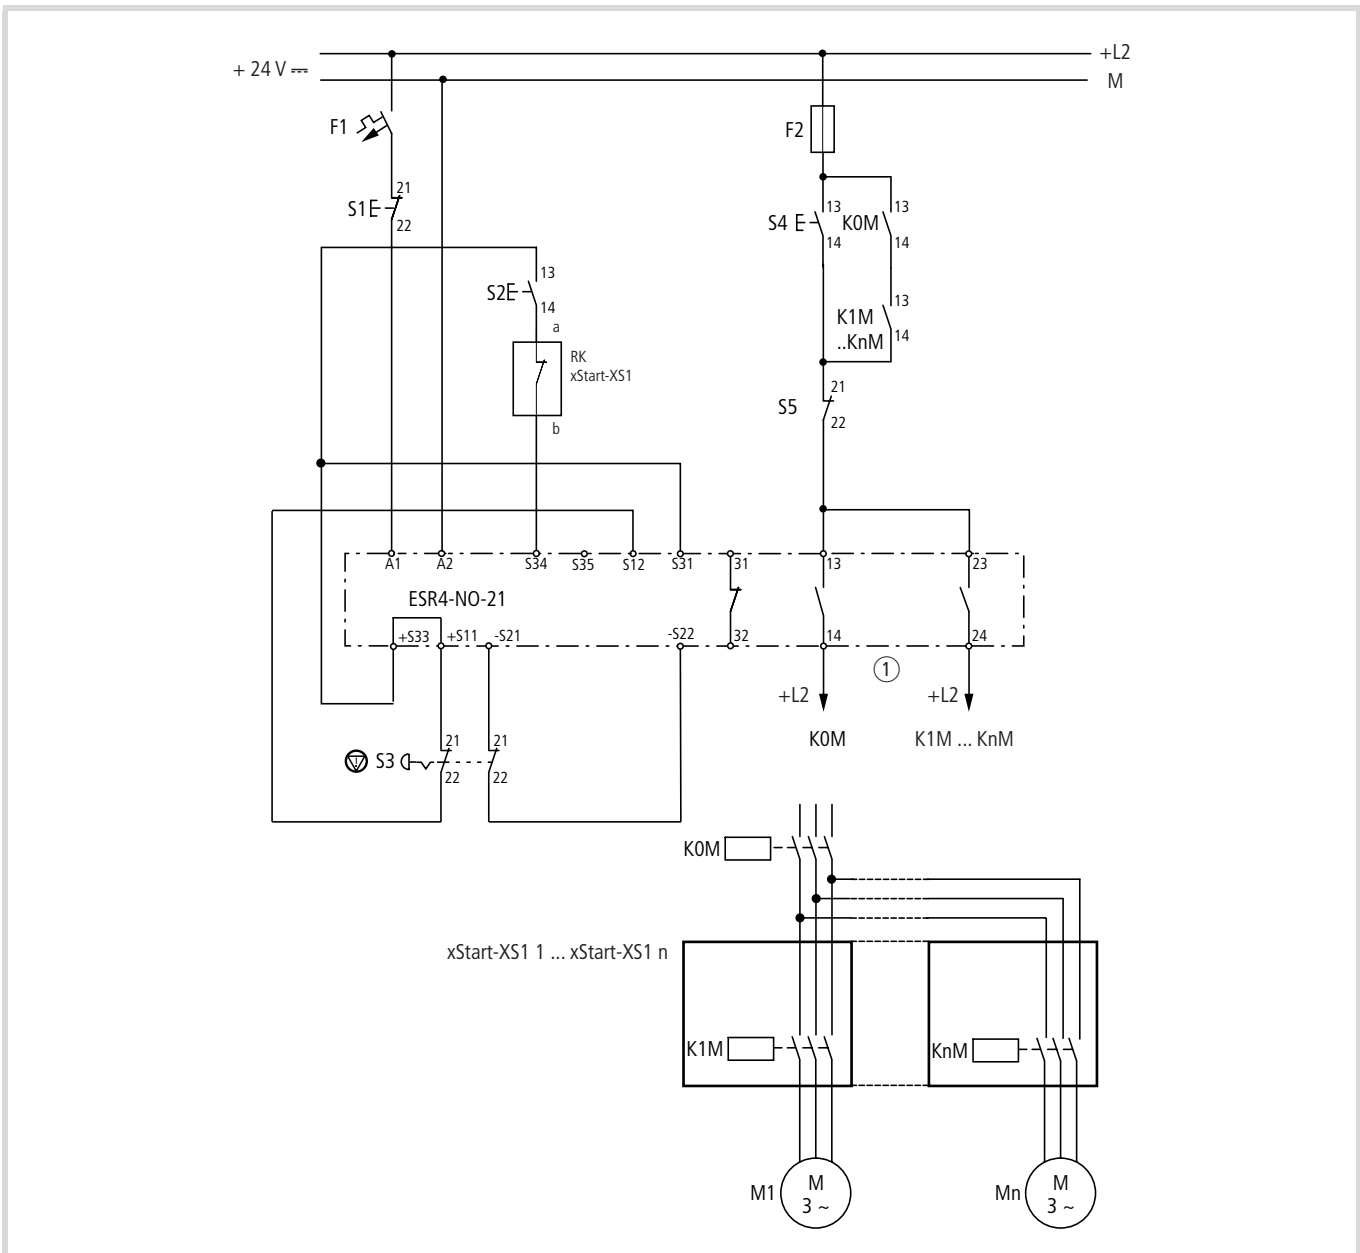
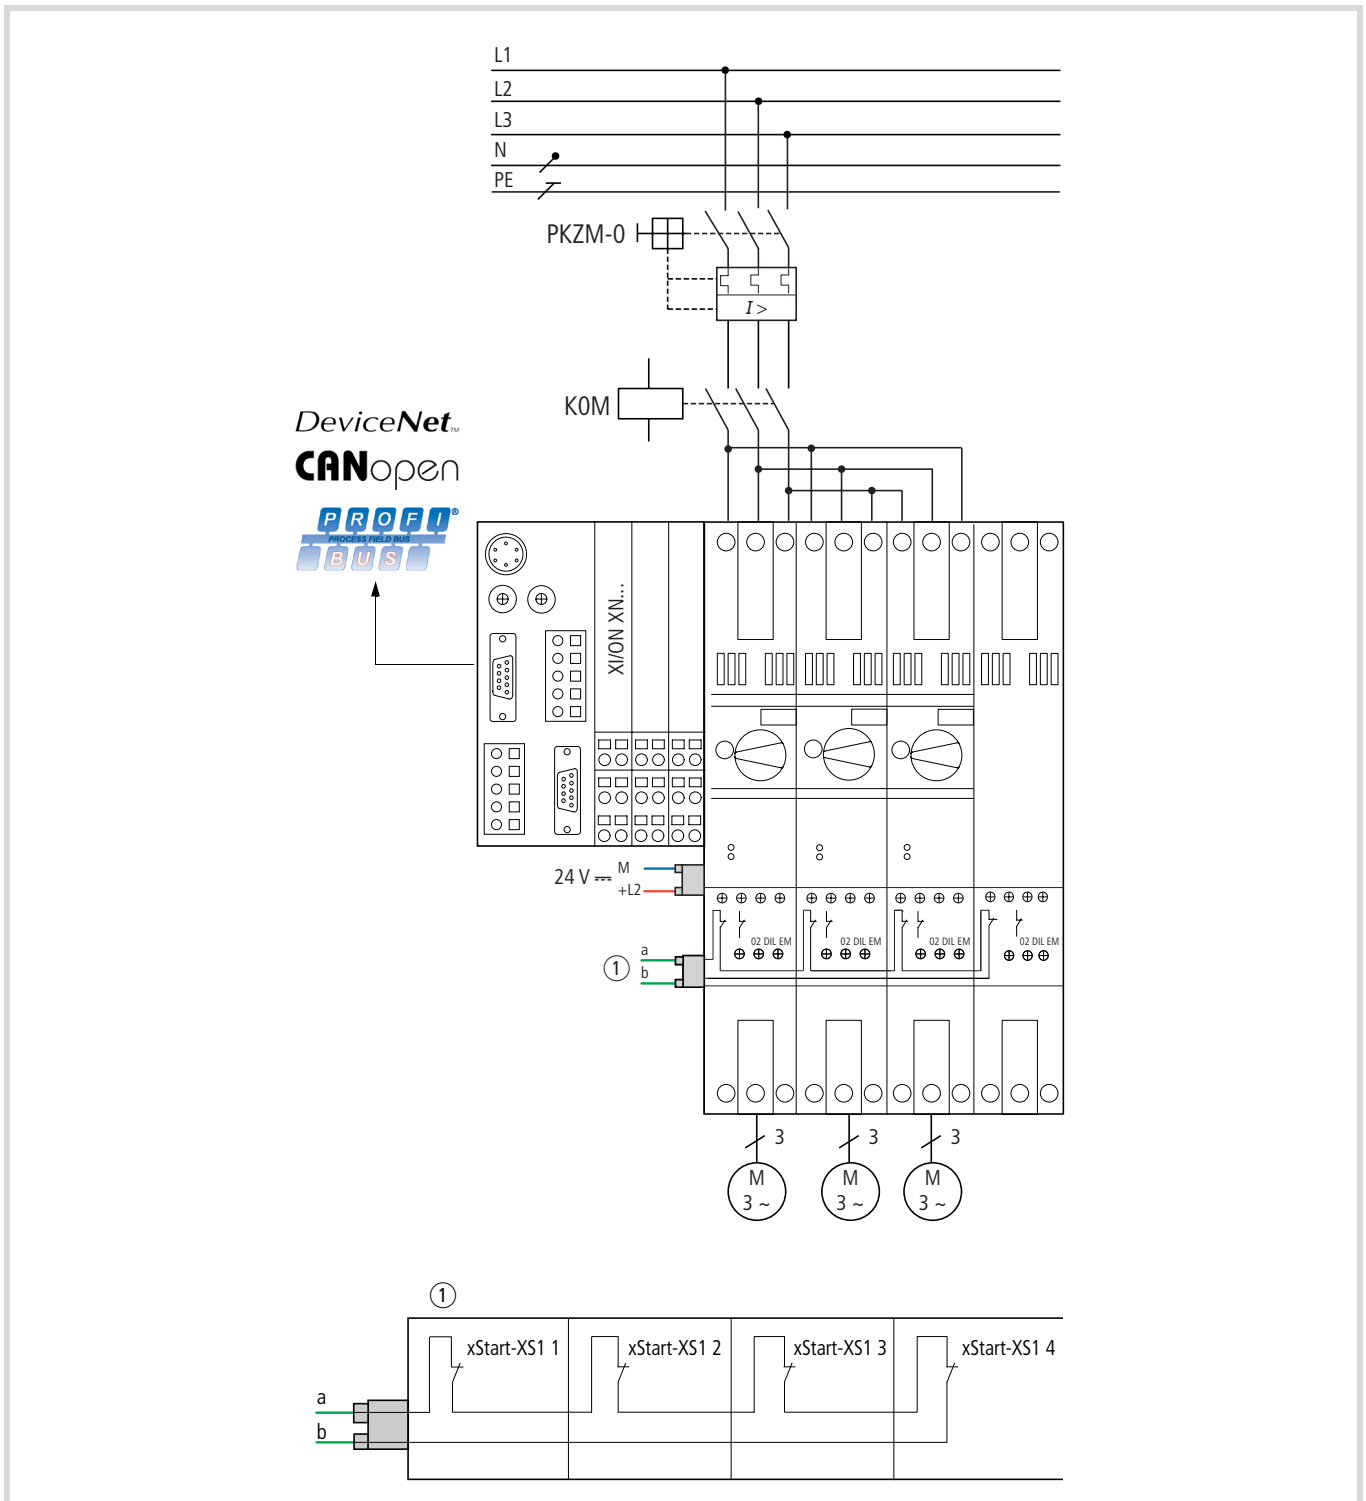

Figure 40: Circuit diagram for ESR4 safety relay with xStart-XS1
Figure 41: xStart-XS1 with safety equipment
This version is shown in figure 40 and figure 41.
- ▶ Check the feedback circuit for continuity. With the contactor in its OFF position, this circuit must be closed. Connect a continuity tester to terminals a and b of the supplied adapter (→ fig. 41).